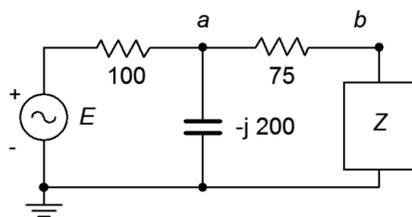

Figure 5.47
83. In the circuit of Figure 5.47, assume the source  $E$  is 120 volts RMS at 60 Hz. Determine the value for the load,  $Z$ , that will produce maximum load power. Express  $Z$  in terms of a resistor and either an inductor or capacitor. Further, specify both the series and parallel equivalents for the load.